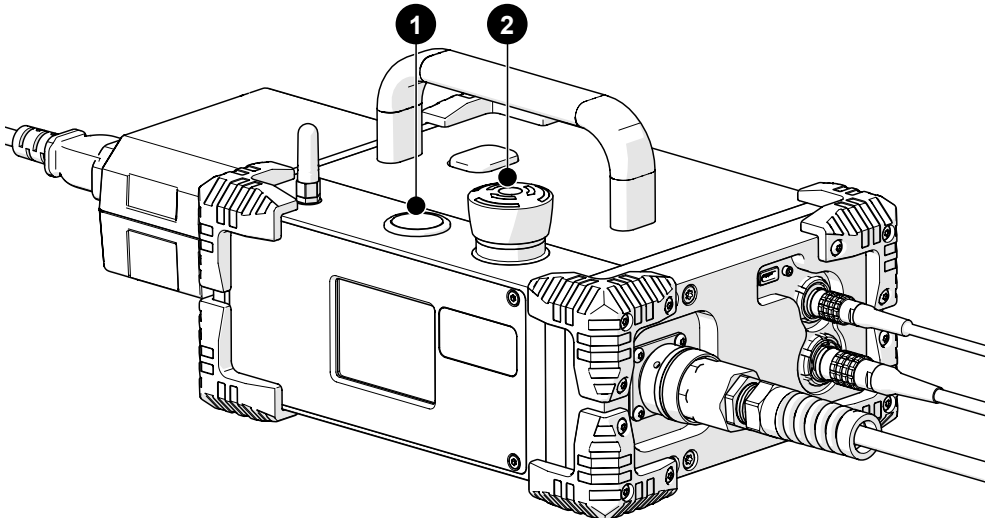

Fig. 177 - System controller
3. Locate the **2** red off push-button on the system controller. Rotate this button clockwise to unlatch (Fig. 177).
4. The **1** power button on the system controller activates the system (Fig. 177).